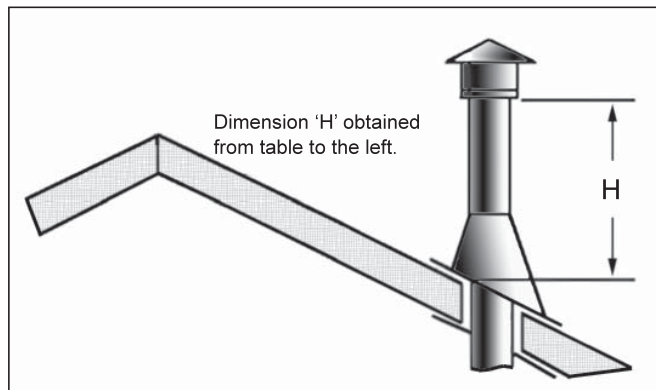

Figure 44: Height of Vertical Termination; Reference Table 5.
Step 7. Continue to add Pipe Sections until the height of the Vent Cap meets the minimum building code requirements described by your local codes. In the absence of local codes, make sure the terminal is 2 feet (610mm) above anything within 10 feet (3046mm) of the vent (refer to Figure 44 & Table 5 for clearances for different pitches). Note that for steep roof pitches, the vent height must be increased. In high wind conditions, nearby trees, adjoining rooflines, steep pitched roofs, and other similar factors can result in poor draft, or down-drafting. In these cases, increasing the vent height may solve this problem.
Table 5: Minimum 'H' for Figure 44.